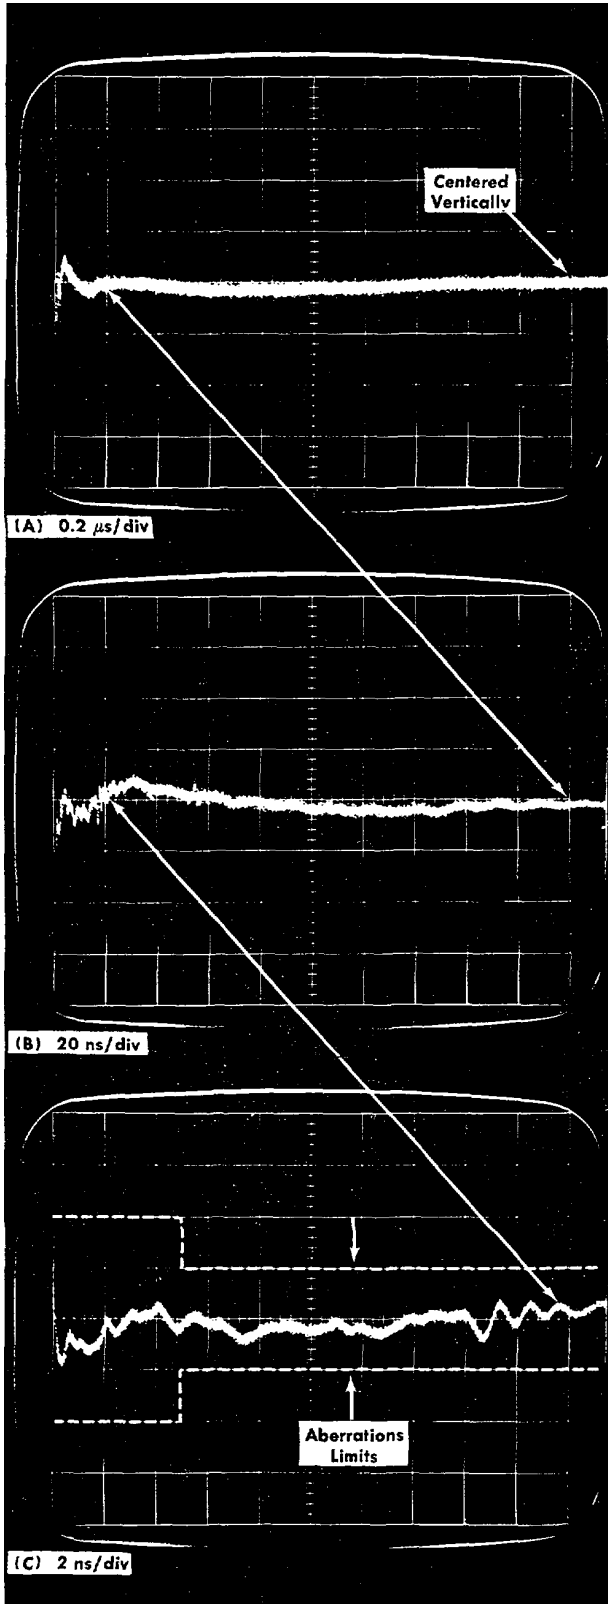

Fig. 8-15. Check of transient response. Step 9.
d. Change the sweep rate to 20 ns/div and horizontally time position the display (with the Time Position control) as in Fig. 8-15B. Vertically position the right end of the trace to the graticule reference as was noted one division in from the left edge at 0.2 μ s/div. Fig. 8-15 arrows show the vertical alignment points. Check that the total display lies within ± 1 major division of the graticule centerline.